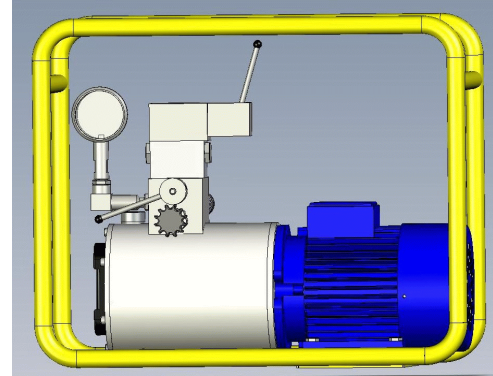

Figure 29
- ⑦ **PHASE 4-5:** Keep the lever of the joystick in CLOSED position to apply the fusion pressure (already adjusted in Phase 1) and time of Phase 5 indicated in the Table. To optimize resources, after 2-3 minutes you can switch the lever to NEUTRAL until the end of time; however, regularly check the pressure gauge and pump if necessary (by placing the lever in CLOSE for a few seconds to restore pressure). In case of excessive pressure loss (greater than 3-4 bar), the problem may lie in the check valve (incorrect closing for dirt in the circuit, etc.). Send the hydraulic pack to revise the hydraulic system.
- ⑧ **PHASE 6:** Once the time of Phase 5 has expired, keep or put the joystick in NEUTRAL position and remove the pressure by lowering the lever of the discharge valve (Figure 29) and wait during the immobilisation period without applying pressure (cooling stage) indicated in the Table (Phase 6).
- ⑨ Once the fusion has terminated, we recommend you take advantage of the cooling time before dismantle the pipes/fittings and to jot down the following data on both sides of the pipes or fittings with a permanent marker: